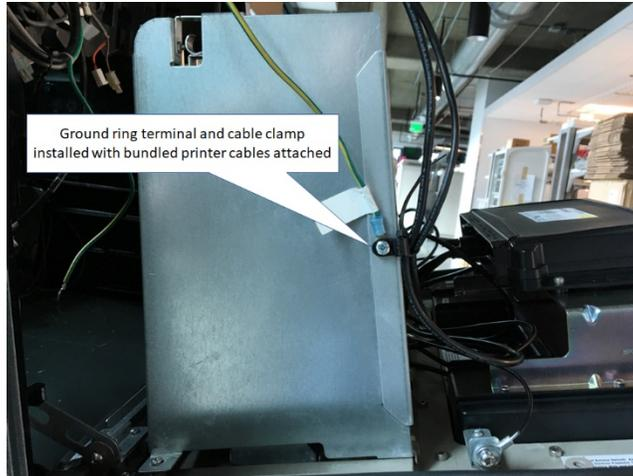

Figure 215
25) Secure the bundled printer cables to the pre-mounted cable clamp at the same location determined in step 24) using supplied cable tie(s) (006-8616073) as applicable. See Figure 215 below.